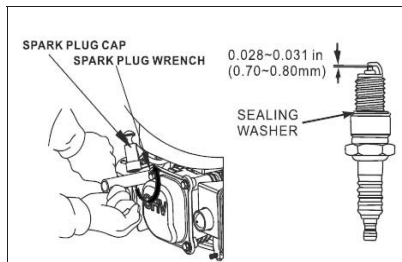

Fig. 11
4. Measure the electrode gap with a suitable gauge. The correct gap is 0.028 - 0.031 in (0.70-0.80 mm). If adjustment is needed, correct the gap by carefully bending the side electrode. (See Fig. 11)